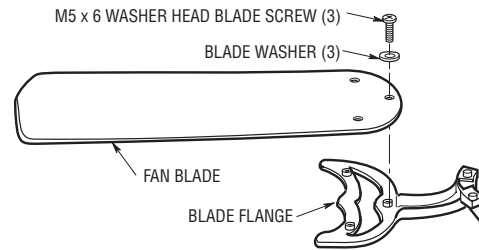

Figure 7
- Mount blade flanges to fan blades using three M5 x 6 washer head blade screws and three blade washers (Figure 7).